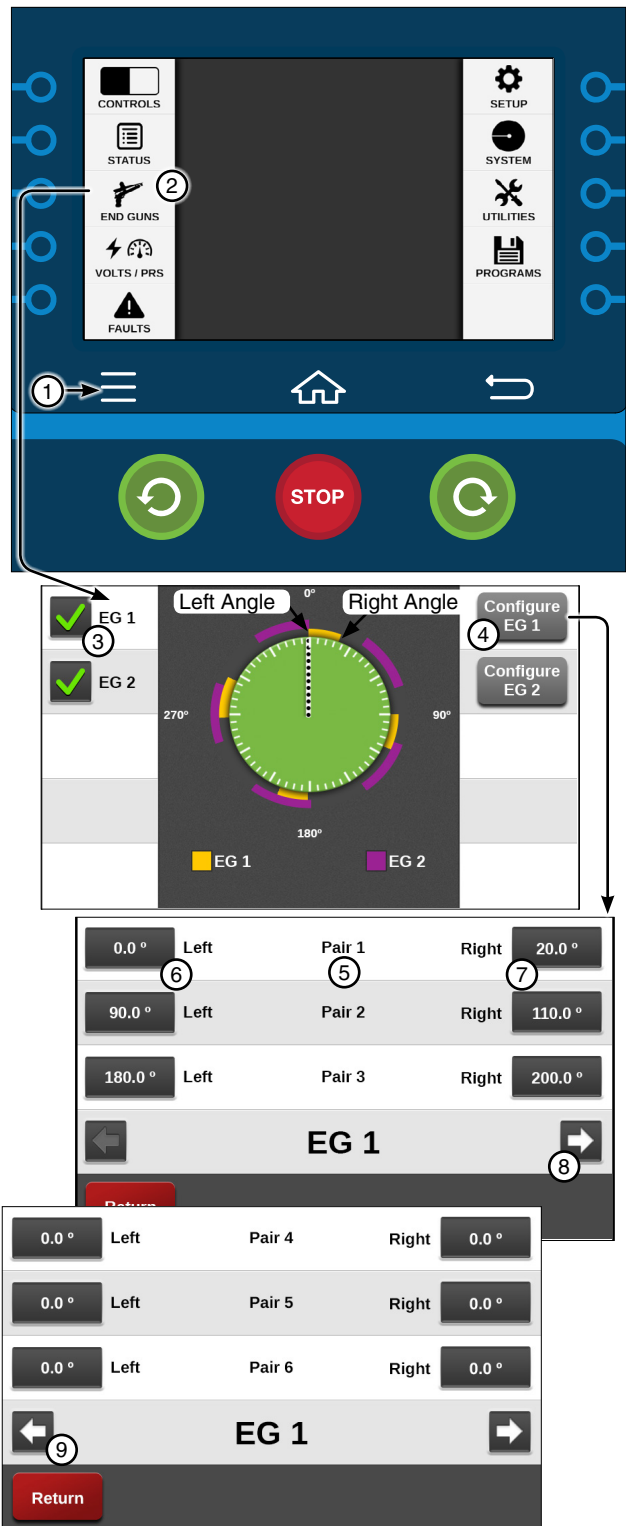

Figure 16-1 1. Menu 2. End Guns 3. End Gun Checkbox 4. Configure 5. Sequence Pair 6. Left 7. Right 8. Next 9. Previous
1. Push **Menu** and **End Guns** to display the End Guns screen. Refer to Figure 16-1.